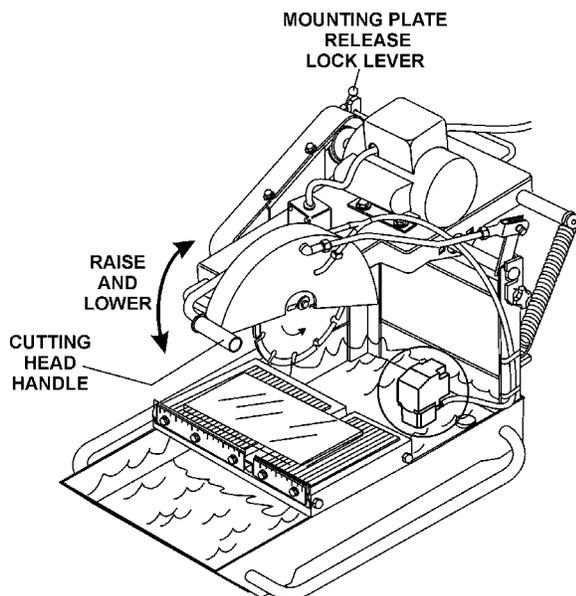

Figure 19. Cutting Head Handle
- Adjust the cutting depth by pulling up or down on the **Cutting Head Handle** (Figure 19). This saw is designed, and is best utilized as a "**Chop-Saw**". Once the mounting plate release/lock lever is released, the optimum cutting action is attained by using the **Raise/Lower Handle** to rotate down onto the material to be cut. Simultaneously the *conveyor cart is moved slowly forward* to advance the material and cutting action.